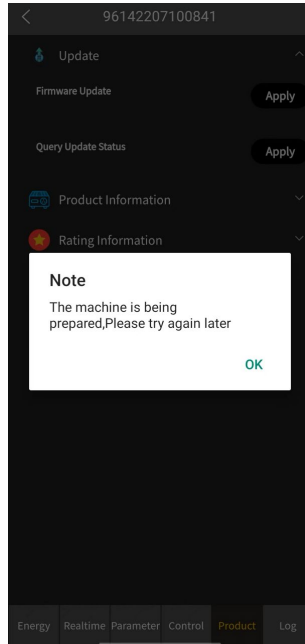

Figure 2
**Fault 2:** After you click the "Apply" button circled in red on the right side of the "Firmware Update" in Figure 1, or the "Apply" button circled in red on the right side of the "Query Update Status" in Figure 2, there is no any response on the screen.
- (1) The mobile phone becomes off-line.